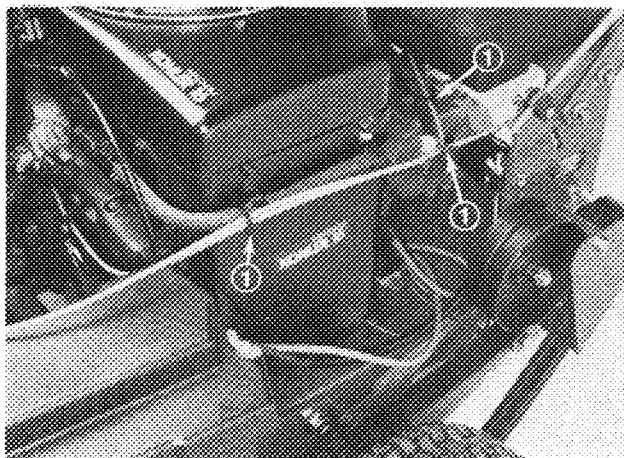

Figure 9
5. Secure wire harness, throttle cable, choke cable and fuel line together with (2) wire ties as shown in Figure 9. Using remaining wire tie, secure choke cable to fuel line as shown in Figure 9.